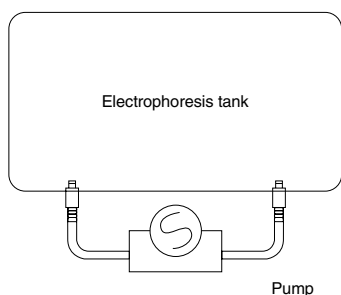

Figure 4. Buffer Recirculation Connections.
4. To operate the buffer circulation system (especially important when using TAE electrophoresis buffer – see Chapter 5), connect the circulation pump to the tubing and quick-connect fittings, and insert the fittings into the buffer ports on the back of the electrophoresis tank (see figure 4). Listen for a distinct “click” to verify that the fittings are properly seated.